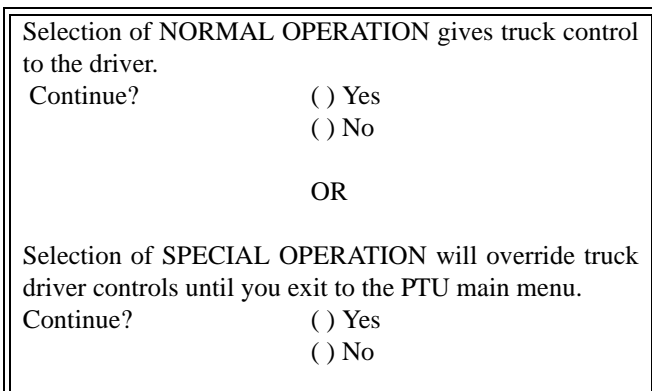
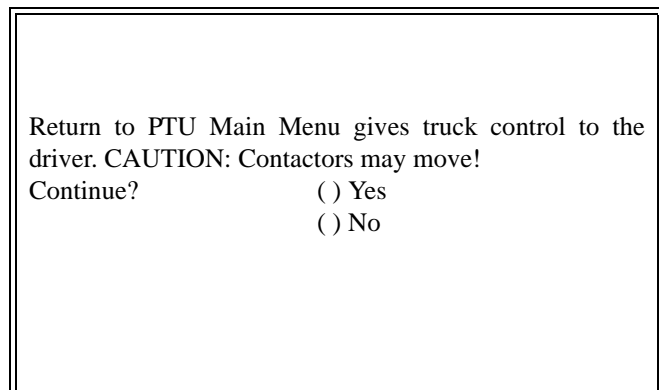

FIGURE 2-26. CAUTION SCREEN
FIGURE 2-27. CAUTION SCREEN
1. With the GE STATEX III PTU Main Menu displayed, select "SPECIAL OPERATION" and press [ENTER]. The screen shown in Figure 2-26 will be displayed to alert the operator about the state of the truck software. This warning notifies the operator when control of the truck is being transferred from the truck driver to the PTU, based on the PTU selection of SPECIAL OPERATION. When finished and the PTU is returned to the GE STATEX III PTU Main Menu, control of the propulsion system is returned to the truck driver. Before activating this command, the screen shown in Figure 2-27 will be displayed. The PTU user must keep the truck driver apprised of this control.
2. Select "YES" on the caution screen (Figure 2-26) and press [ENTER]. The Special Operation menu will be displayed.